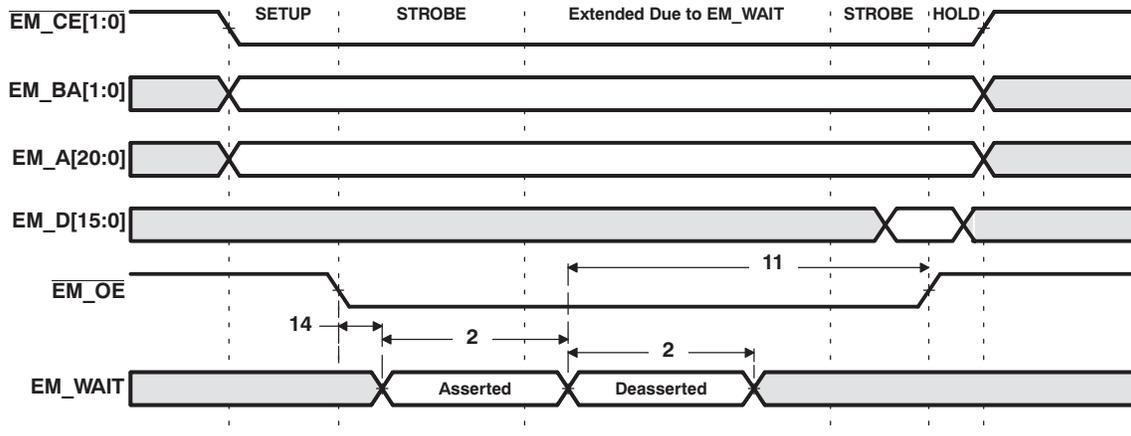
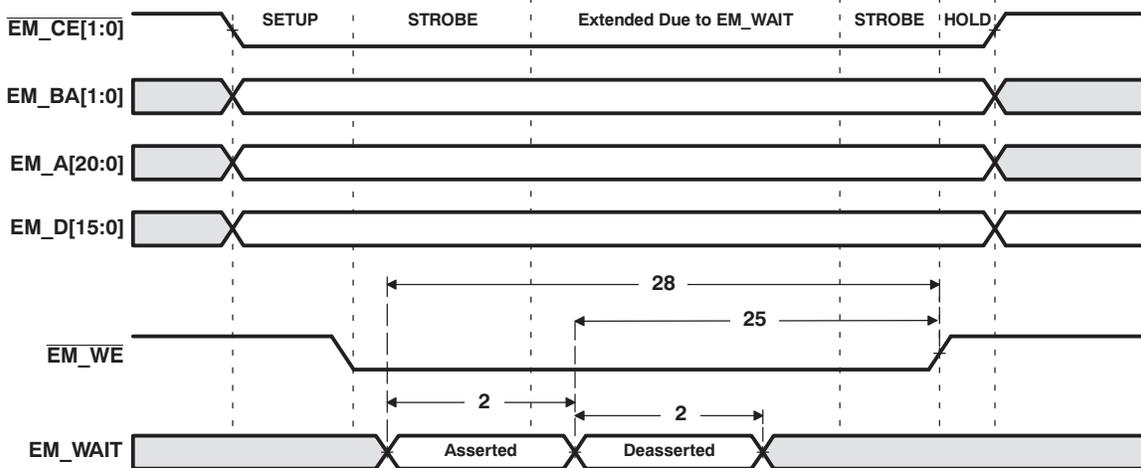

Figure 6-15. EM_WAIT Read Timing Requirements
Figure 6-16. EM_WAIT Write Timing Requirements
- (1) E = PLLC1 SYSCLK2 period in ns. SYSCLK2 is the EMIF peripheral clock. SYSCLK2 is one-fourth the PLLC output clock. For example, when PLLC output clock = 432 MHz, E = 9.259 ns. See Section 3.3 for more information.
- (2) Setup before end of STROBE phase (if no extended wait states are inserted) by which EM_WAIT must be asserted to add extended wait states. Figure 6-15 and Figure 6-16 describe EMIF transactions that include extended wait states inserted during the STROBE phase. However, cycles inserted as part of this extended wait period should not be counted; the 4E requirement is to the start of where the HOLD phase would begin if there were no extended wait cycles.